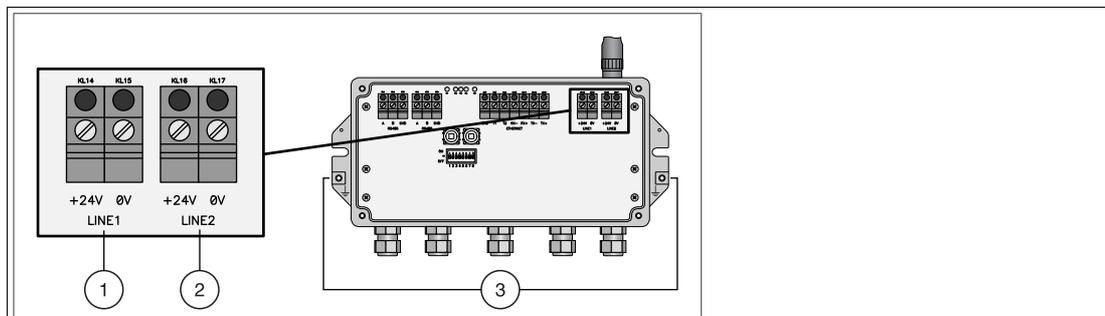

Figure 3.10 Power supply
1. Connect one of the grounding terminals to a ground wire. → see Figure 3.10 on page 30
6. Connect the power cable to the first power supply connection "Line 1" observing polarity. → see Figure 3.10 on page 30